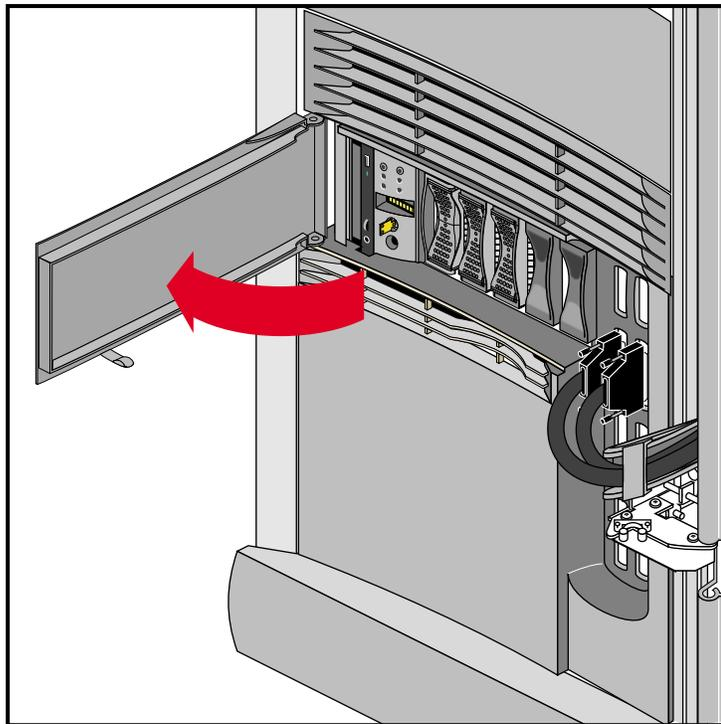

Figure 6-7 Opening the Drive Front Door on a Rackmount System
1. Swing open the drive door as shown in Figure 6-7. When closing the door, push it all the way in to engage the plastic tab on the bottom of the door.